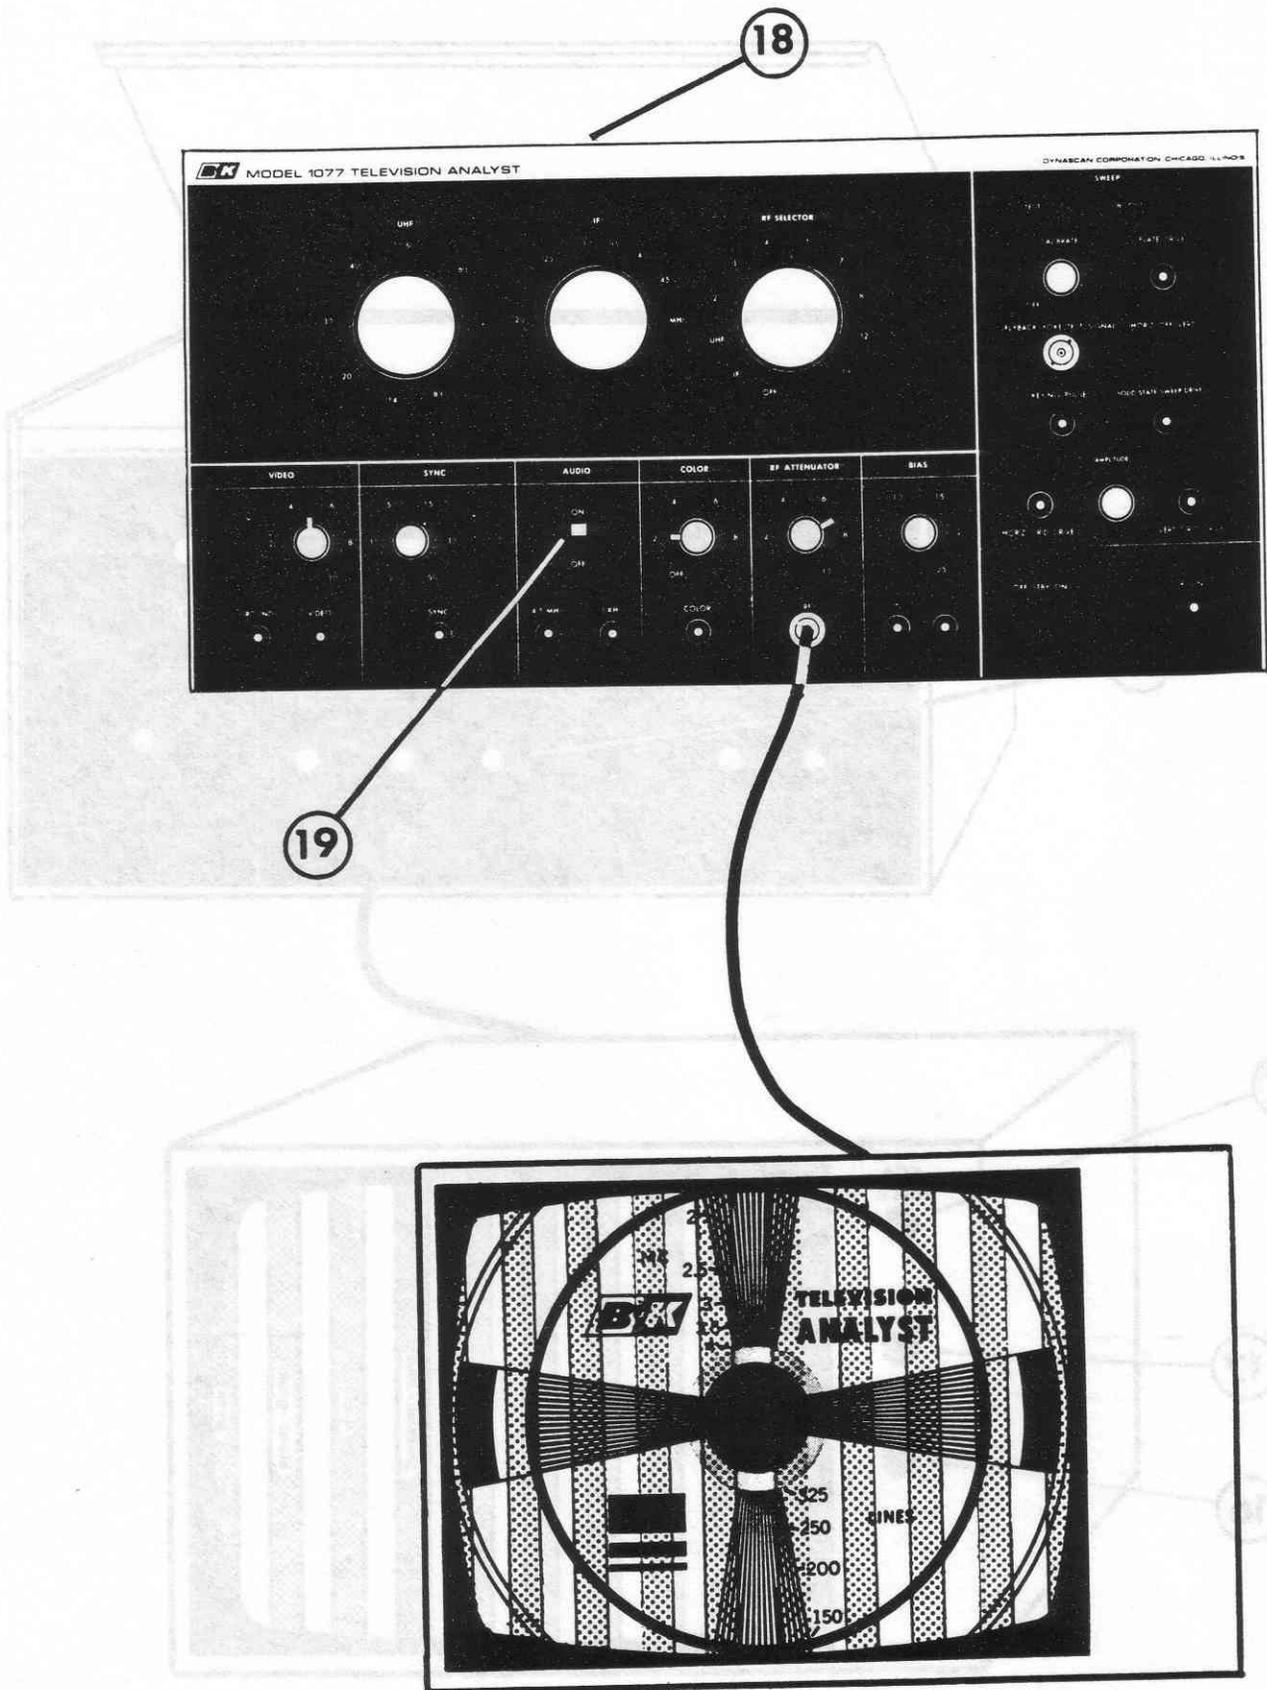

Figure 8. Black and White Video Test Pattern and Color Bar Pattern Superimposed
- 18. Reinsert the test pattern slide and notice that the black and white test pattern and the color bar pattern are both present on the display. This demonstrates the ability of the television receiver to display both black and white signals and color signals. (See Figure 8.)